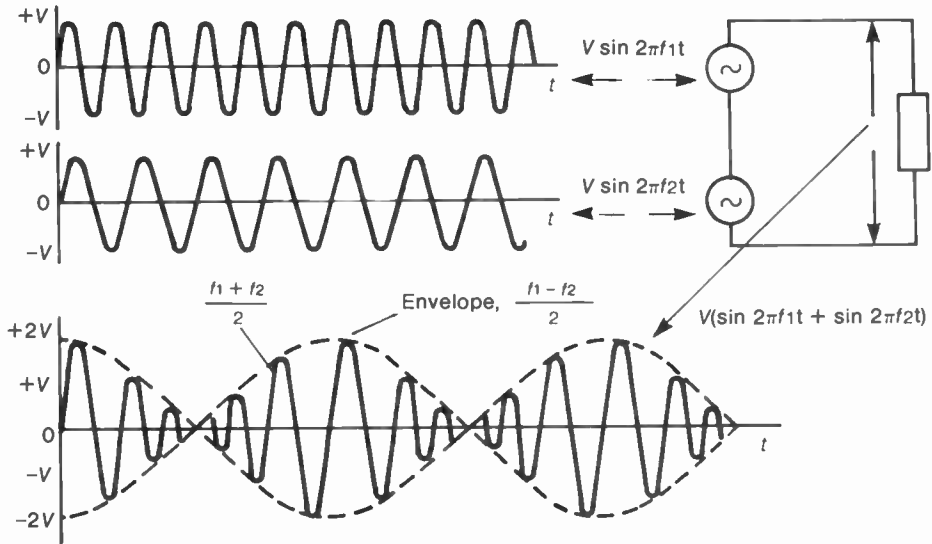

Fig. B1 Addition of Two Sine Waves
**BEAT FREQUENCY** is produced when two signals of slightly different frequencies are combined, they do not modulate (unless some non-linearity is present) but simply add. Consider two sine waves of equal amplitude,  $V$  and of frequencies  $f_1$  and  $f_2$  where  $f_1$  is slightly greater than  $f_2$ . They are shown graphically in Figure B1, labelled  $V \sin 2\pi f_1 t$  and  $V \sin 2\pi f_2 t$ . Adding these two waves together produces: